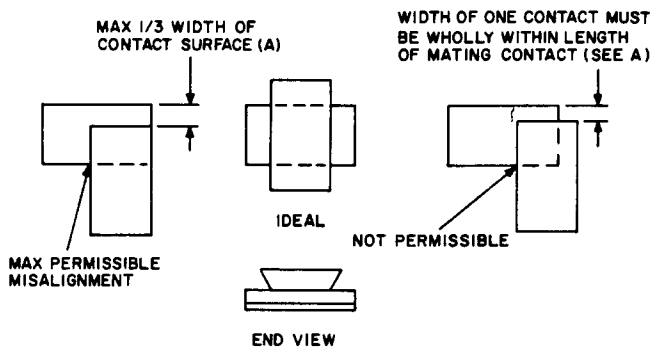

Fig. 3—Alignment of Contacts
2.04 Contact Alignment: Fig. 3, (A)—The contact alignment shall be within the limits indicated in Fig. 3.